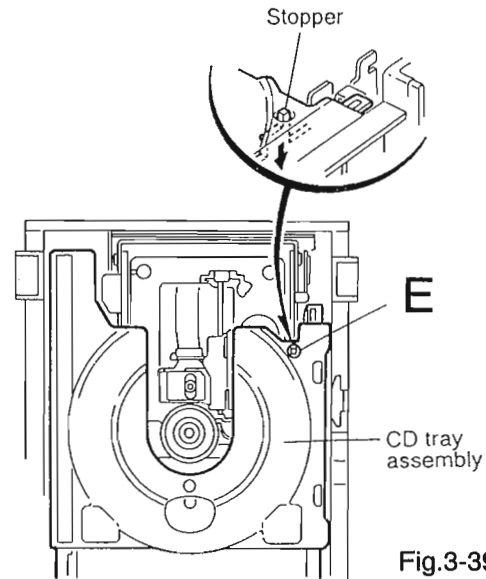

Fig.3-39
11. Check whether the lifter unit stopper has been caught into the hole at the section "E" of CD tray assembly as shown in Fig.3-39.